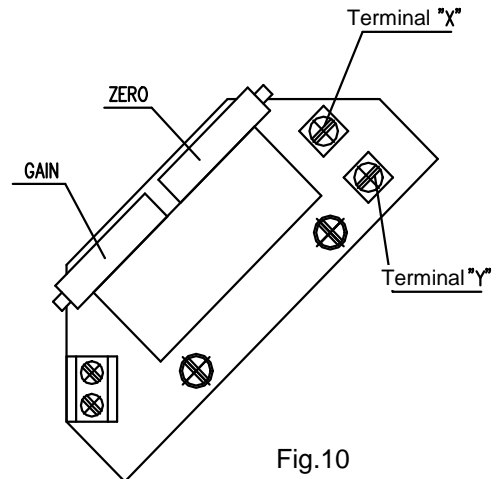

Fig.10
4.6.1 EPV – the 2-wire version (Fig. 10,10a)
- Adjust the resistive transmitter according to the previous chapter. The resistance is to be metered on the terminals X-Y (Fig. 10,10a). The used transmitter resistance is 100 Ω .